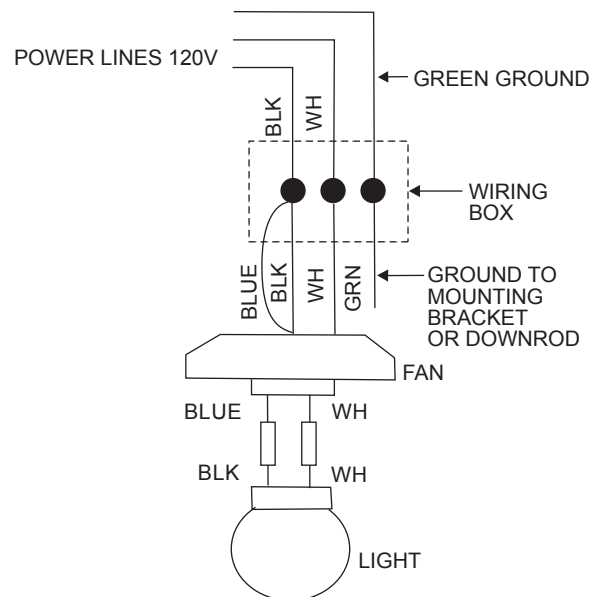

Figure 11
Step 1. Connect the fan supply (black) wire and light supply (blue) wire to the black household supply wire as shown in Figure 11.